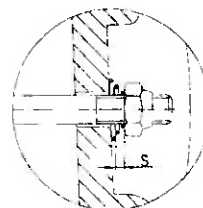

Figure 26: Adjust floating clearance
3. Remove the rubber sealing collar (5) and dismantle the manual brake release:
- setting nuts (18), conical coil springs (17), studs (16), release lever (15), dowel pin (14).
4. Loosen the hex nuts (10e), carefully pull back the coil body (12)
5. Change or add brake springs symmetrically (11)
- (pressed flat) and setting nuts. (• Figure 26)